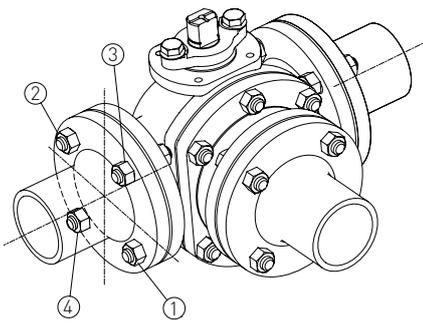

FIGURE 1 - TIGHTENING OF BOLTS
4. Tighten the flange bolts with a closed wrench, using a 'crisscross' pattern that alternately tightens the bolts located 180 degrees apart (see Fig.1). Unequal partial tightening places stress on lined pipes which may damage the flange or produce excessive operation torque.